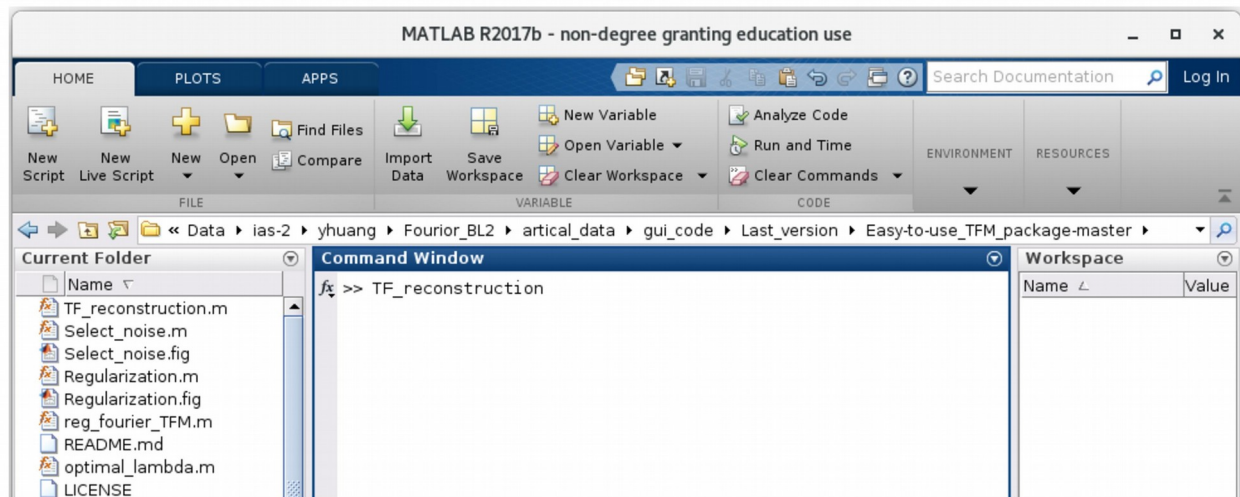
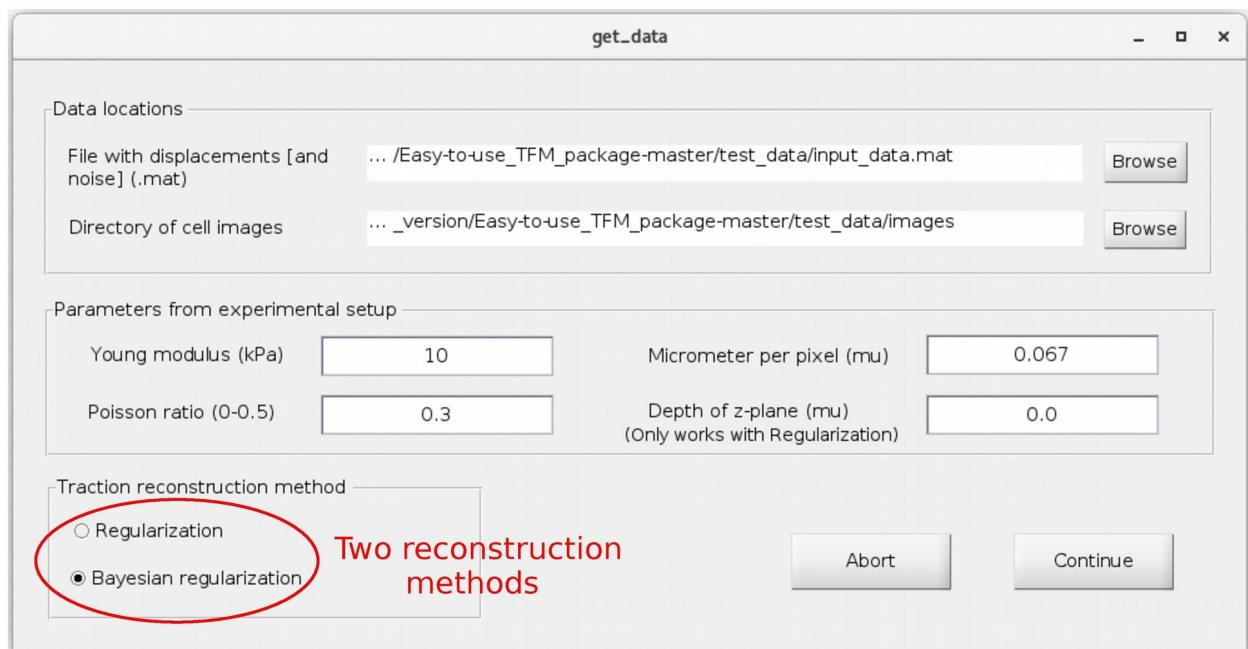
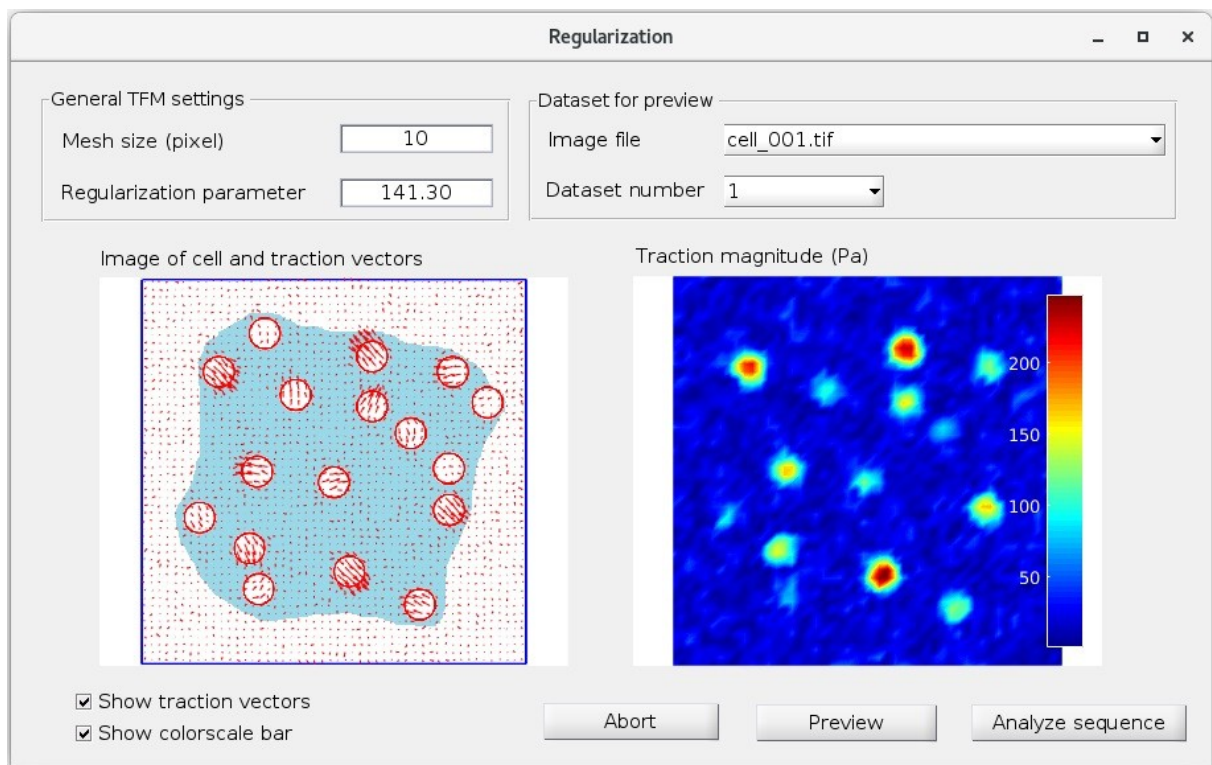
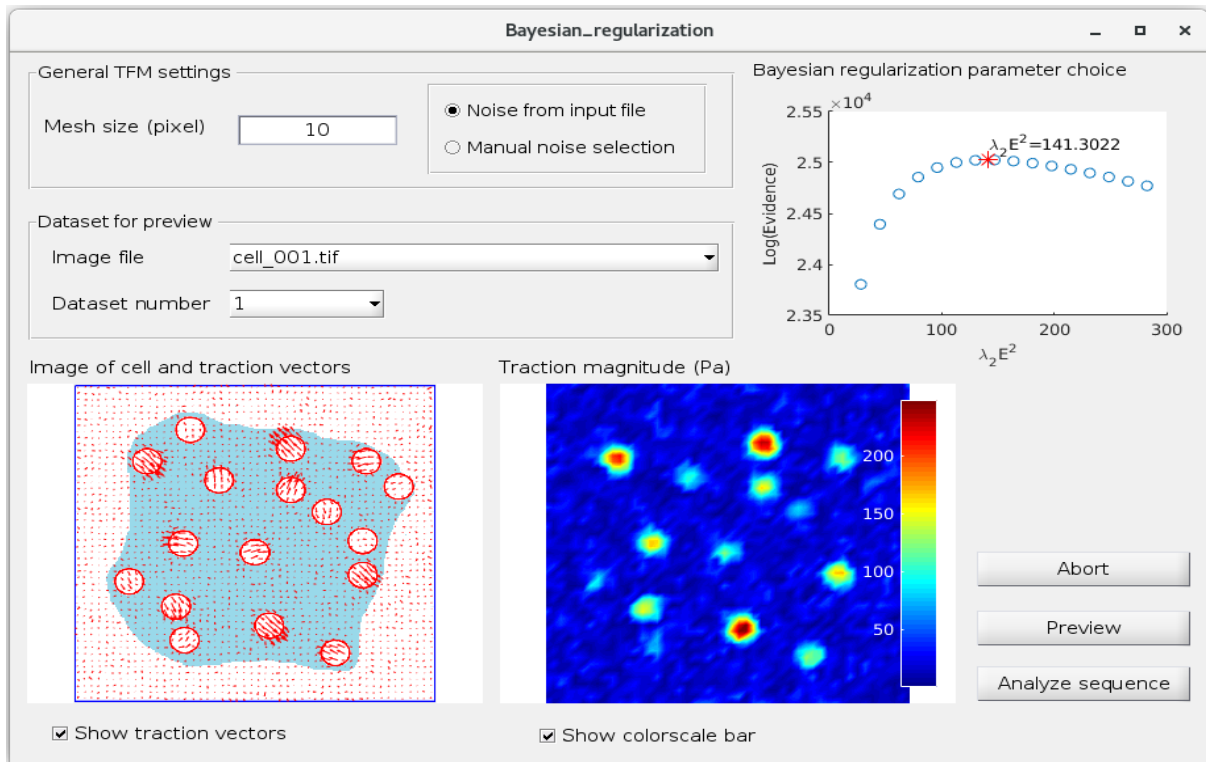

Figure 3. Starting the TFM software.
Figure 4. Providing general input data in the window “get_data”.
Figure 6. Calculating traction forces in the Regularization menu.
Figure 7. Calculating traction forces in the Bayesian regularization menu.
into the command line as shown in Figure 3. Next, a window titled ‘get_data’ will appear and allow you to enter general input data as shown in Figure 4.
If “Regularization” is selected with the option buttons shown in Figure 4, the next window that appears after clicking “Continue” allows to one to perform traction calculations with the Regularized Fourier transform traction cytometry. The window is shown in Figure 6. The following inputs are required:
If “Bayesian regularization” is selected in the ‘get_data’ window as shown in Figure 4, the next window that appears after clicking “Continue” allows to one to perform traction calculations with Bayesian Fourier transform traction cytometry. With this method, the optimal smoothing regularization parameter $\lambda_2 E^2$ is determined automatically by maximizing the evidence. The numerically calculated evidence function and the optimal regularization parameter can be displayed together with a preview of the traction forces, see Figure 7. For this method, an estimate of the variance of the noise in the displacement data is required. The technical details of the procedure are described in References [1-2].
As illustrated in Figure 7, the following inputs are required:
- If your input data contains a sample of the displacement noise, you can select the radio button option ‘Noise from the input file’ as shown in Figure 7.